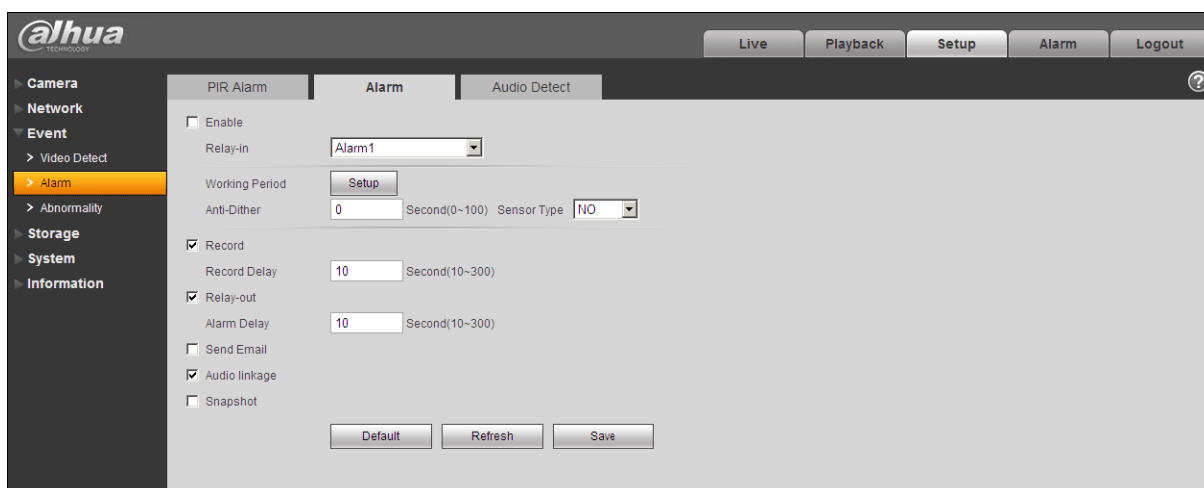

Figure 1-4 Alarm
The alarm interface is shown as in Figure 1-4. Please follow the steps listed below for local alarm input and output connection.
- 3) Open the Web; go to the Figure 1-4. Set alarm input and output correspondingly. Alarm input on WEB corresponds to I/O cable on device. When there is alarm, alarm input device will generate signal of high and low level. Set corresponding NO and NC inputs.